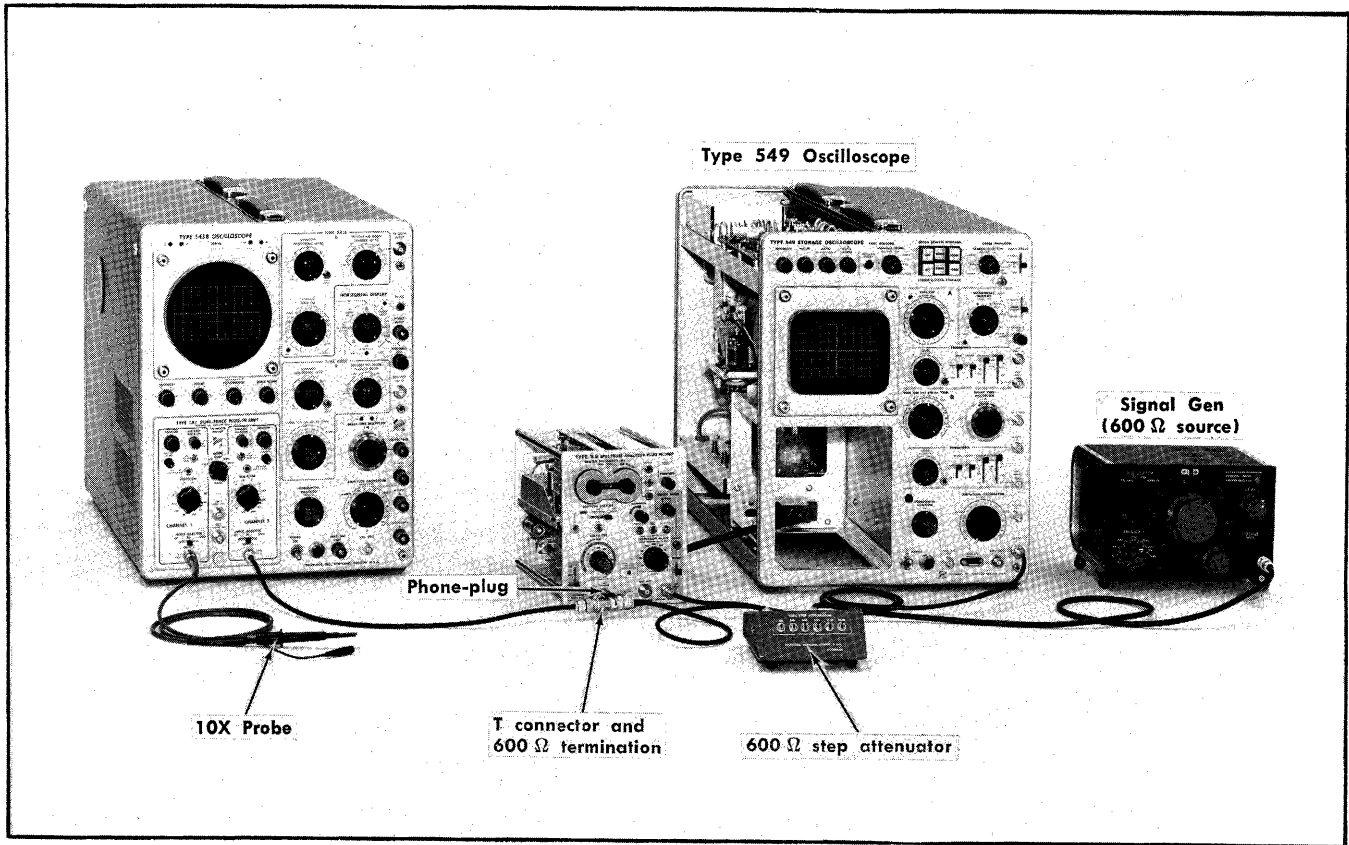

Fig. 6-11. Equipment setup to check dynamic range, adjust linear (RMS) calibration and check the recorder output signal.
- a. Equipment setup shown in Fig. 6-11.